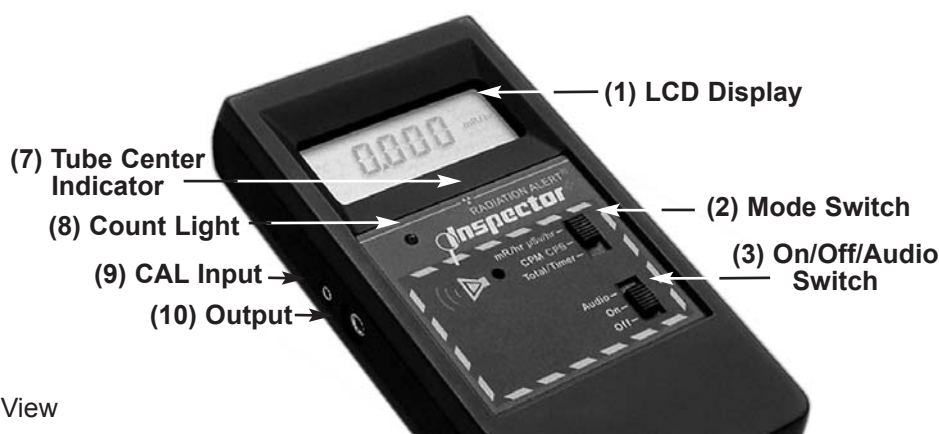

Figure 1 Front View
### Mode Switch (Figure 1(2))
### Off/On/Audio Switch (Figure 1 (3))
The Inspector+ uses a two-inch Geiger tube, commonly called a “pancake tube.” On the back of the Inspector+, the screen is called the window. See Figure 4. It allows alpha and low-energy beta and gamma radiation, which cannot get through the plastic case, to penetrate the mica surface of the tube. The small **radiation symbol (Figure 1 (7))** on the front label indicates the center of the Geiger tube .
The **Cal Input (Figure 1 (9))** port is used for calibrating electronically using a pulse generator. For details, see “Calibrating Electronically” in Chapter 5.
The **Output (Figure 1 (10))** port below the Cal Input jack allows you to interface the Inspector+ to a computer, data logger, or other device. For details, see “Interfacing to an External Device” in Chapter 3.